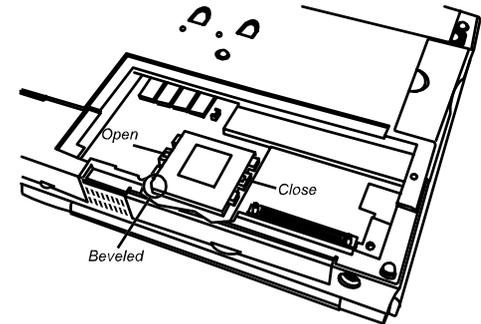

Figure 7-18. Removing the CPU
1. TO INSTALL THE CPU , ALIGN THE BEVELED CORNER ON THE CPU WITH THE BEVELED CORNER OF THE SOCKET AND INSERT THE CPU PINS INTO THE HOLES. INSERT A FLAT SCREWDRIVER TO THE CLOSE SIDE OF THE SOCKET AND PUSH THE SCREWDRIVER TOWARD THE CPU TO SECURE THE CPU IN PLACE. (ref fig 7-18)